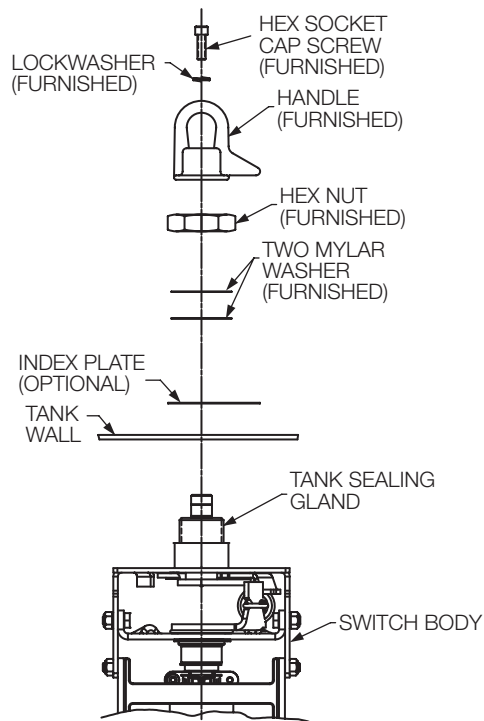

Figure 3. Two-position ring mount offset loadbreak switch.
1. Install the gasket over the threaded switch boss (with integral sealing gland) and insert the switch assembly through the tank hole (Refer to Figures 3 and 4).